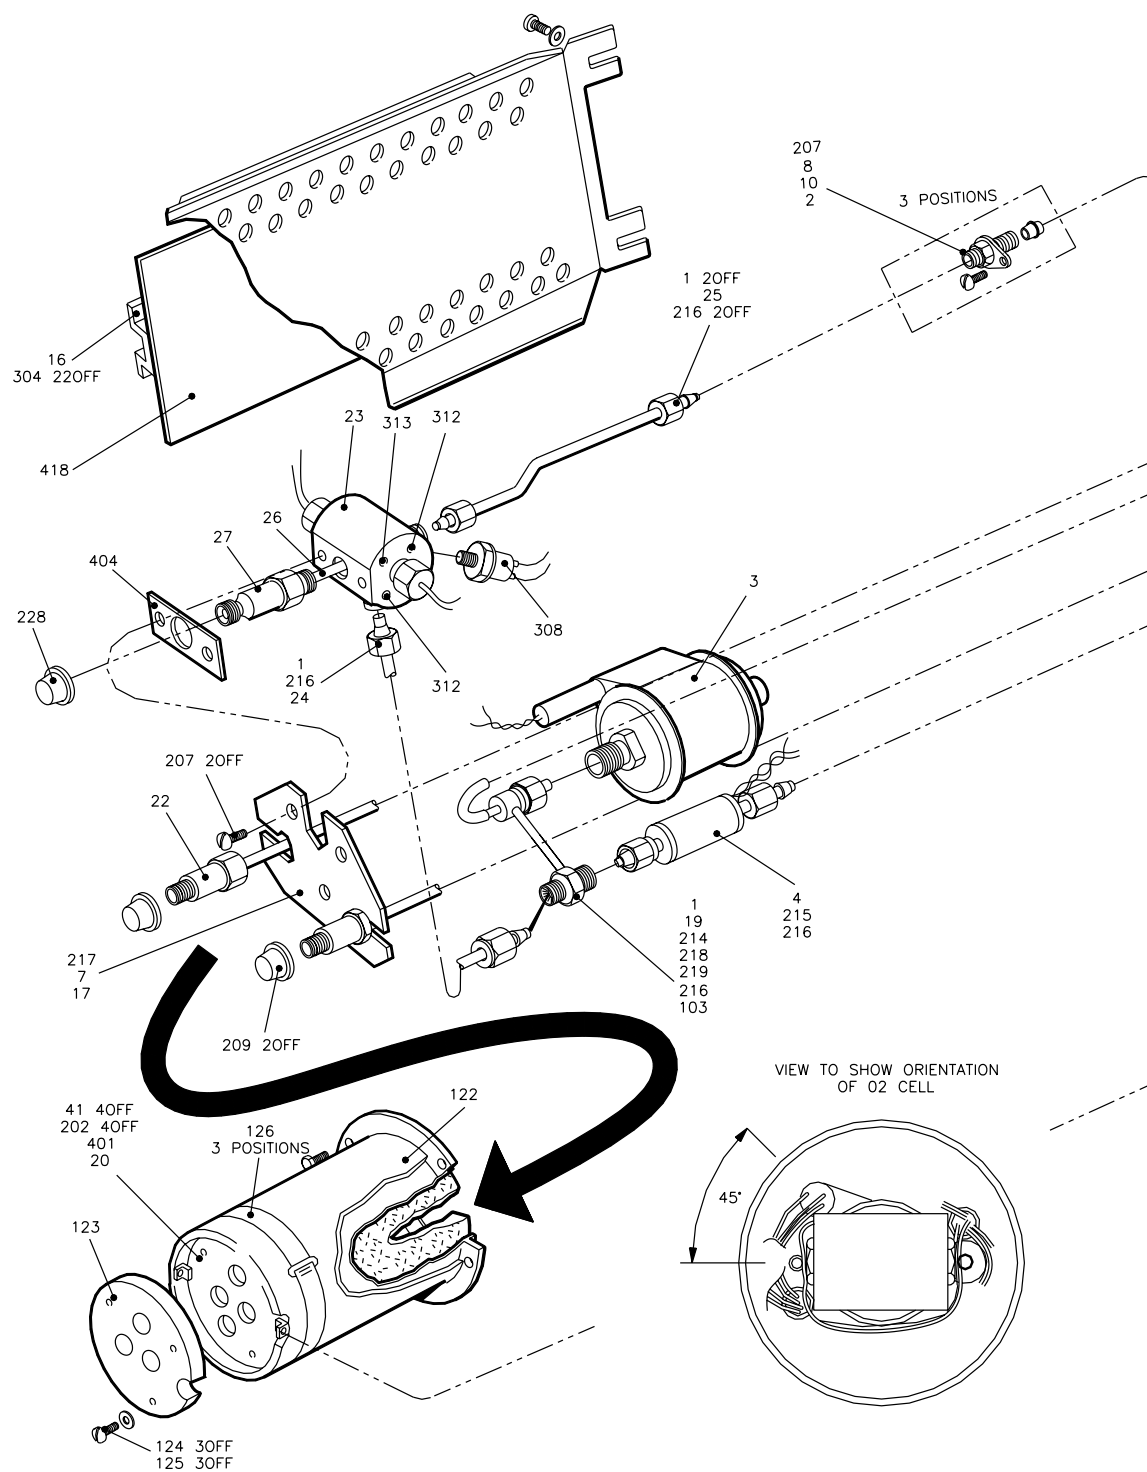

Figure 7.4 Exploded View, Sensor Head, Oxygen and Combustibles
7.2.4 Sensor Head, Oxygen and Combustibles (Figure 7.4)